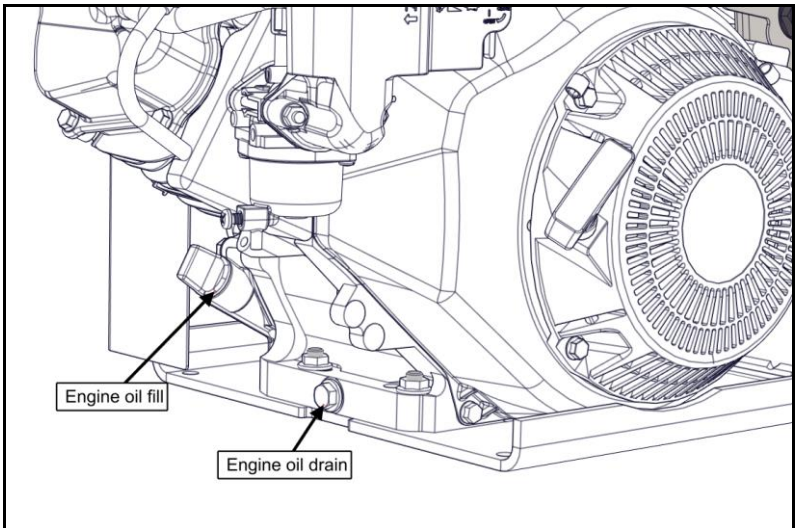

Figure 5 – Engine Oil Drain
- 1) Locate the engine oil drain (Figure 5).
- 1) Locate the oil fill cap. The oil fill cap is located adjacent to the oil drain (Figure 5).
- 4) Locate the oil fill cap. The oil fill cap is located adjacent to the oil drain (Figure 5).